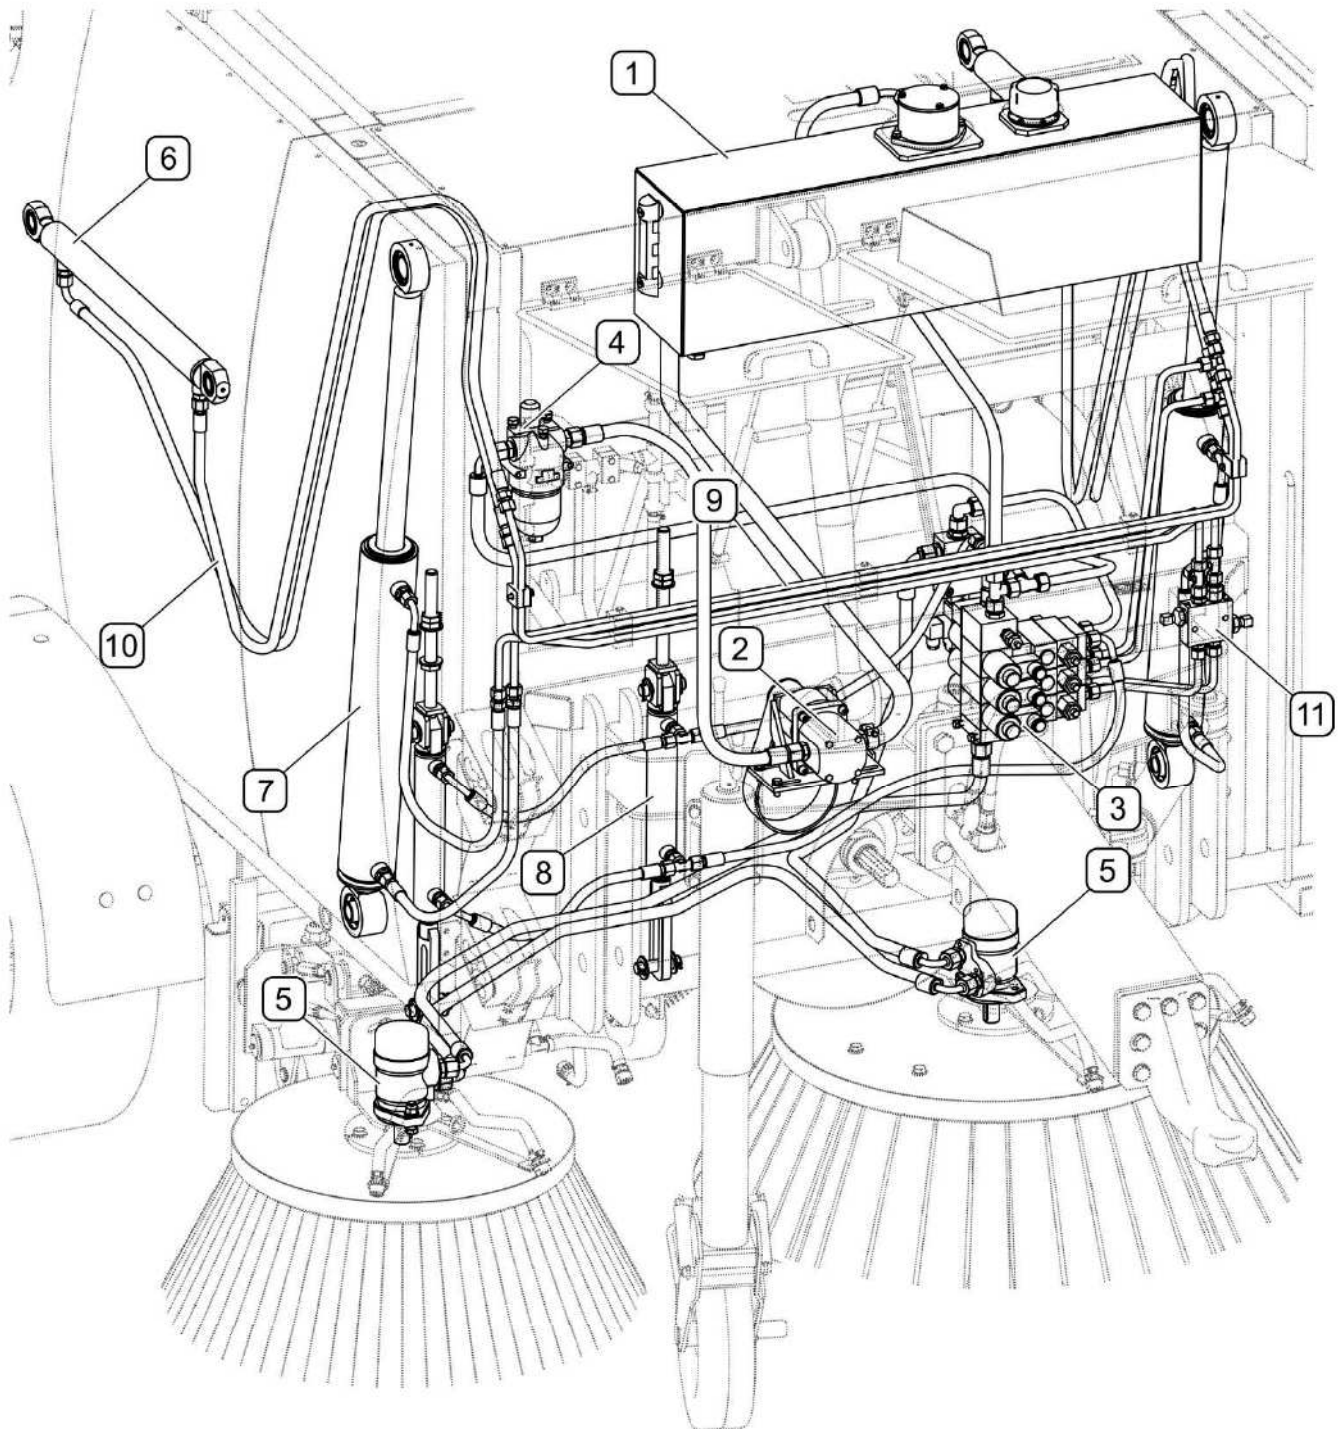

FIG. 3.2 Hydraulic system design
(1) - oil tank; (2) - oil pump; (3) - selective control valve; (4) - oil filter; (5) - hydraulic motor; (6) - hydraulic cylinder for tank opening; (7) - hydraulic cylinder for tank lifting; (8) - hydraulic cylinder for raising brushes; (9) - metal hydraulic conduits; (10) - rubber hydraulic conduits; (11) - cross overflow valve
PRONAR ZMC2.0 sweeper is equipped with a closed hydraulic system (FIG. 3.2). Oil tank (1) is located on the front, in the upper part of the machine and is equipped with filler plug with filter, return filter and oil level indicator with thermometer. Oil pump (2) is driven by the tractor's power take-off shaft (PTO) through the power reception system. The hydraulic circuit is controlled by activating suitable selective control valve (3) sections from the operator cab. Brushes are driven by two hydraulic motors (5).